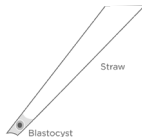

Figure 3. The blastocyst in the tip of the OPS
- 4) Touch the droplet with the narrow end of the OPS. The media with the blastocysts will be automatically drawn into the tip of the straw (See Figure 3).